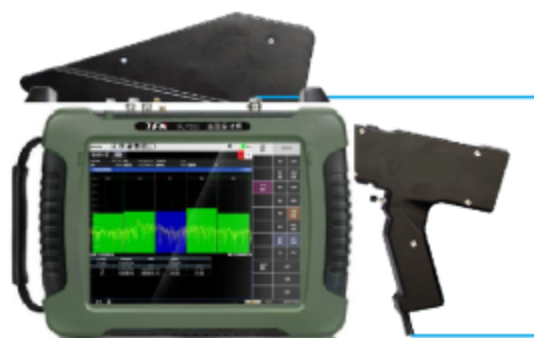

Figure 7.15 Connecting diagram of handheld DF antenna and RMT series spectrometer
Step 1. Connect the handheld direction finding antenna to the RF input port of RMT series spectrometer, connect the GPS antenna, and test after successful GPS synchronization, as shown in Figure 7.15: